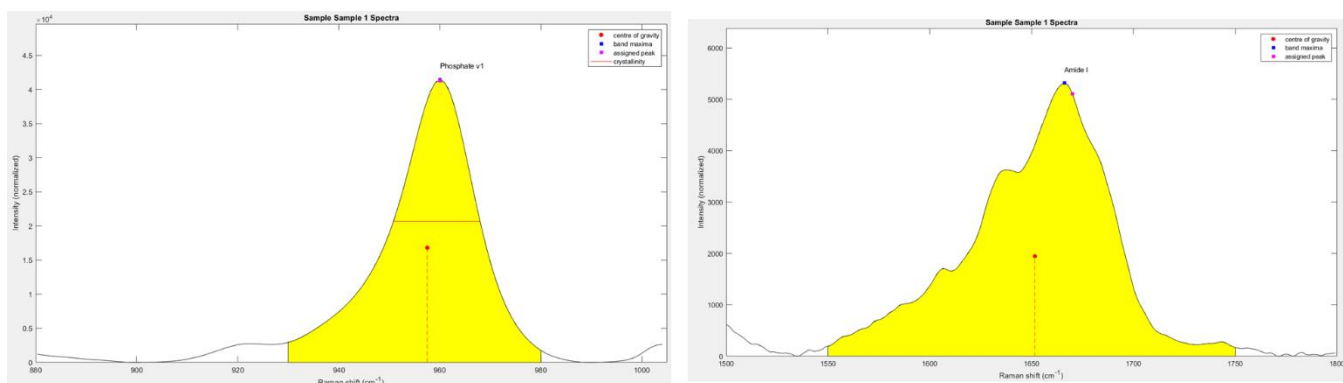

Figure 32: Examples of isolated bands analysis.
- If the 'Band Isolation' option was selected on the control panel, additional figures showing individual bands will also be displayed as figures. (see Fig. 32 for examples)